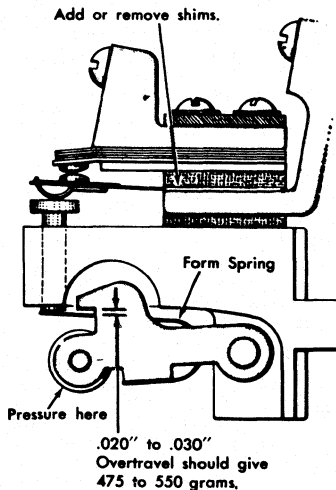

Figure 44. High-Speed Circuit Breaker
1. Remove CB assembly from machine. Shim for .027-inch to .032-inch contact air gap with plunger seated against frame (Figure 44).